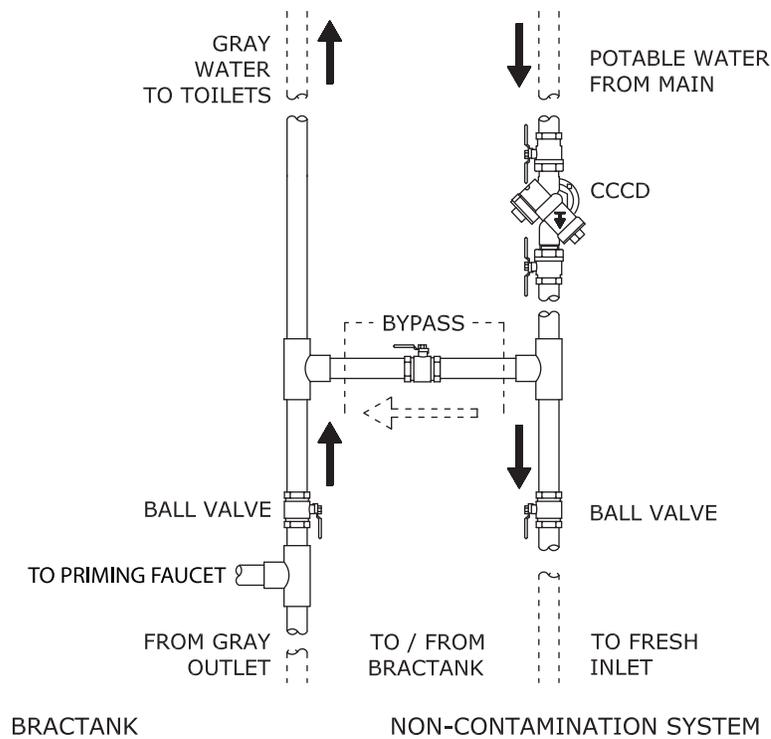

Figure 3
Priming and irrigation faucet: It is recommended that a standard hosebibb be installed on the greywater outlet piping downstream of the shut-off valve. See Figure 3 on page 11. This faucet will provide water at pressure for use in your garden and is also used to prime the system pump, and to release system pressure prior to servicing the pump.
8. Install a cross-connection control device (CCCD) on the potable water pipe to the "fresh water in" port of the **BRAC SYSTEM**. (See figure 3).
9. For reasons such as power failure, it is recommended that a bypass line with shut-off valves be installed between the "potable water in" and the "greywater out" lines, downstream of the CCCD. This will ensure that the toilets are supplied with pressurized water for normal operations at all times. (See figure 3).